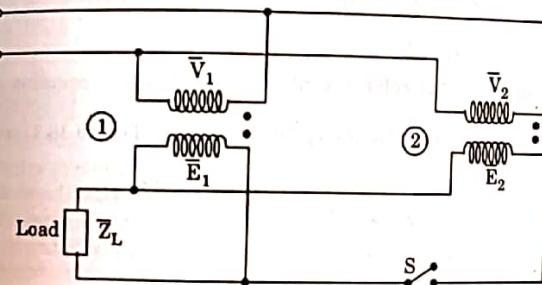

Fig. 5.18.1. Transformer in parallel.
1. Fig. 5.18.1 shows two transformers paralleled on both side with proper polarities but on no-load.